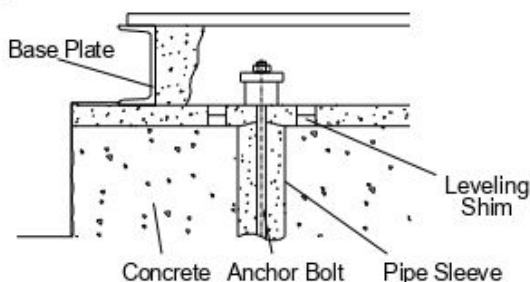

Fig. 2 Foundation, baseplate and fitting the shims
- The foundation should be heavy enough (at least 5 times the weight of the pump set) to reduce vibrations and rigid enough to avoid any twisting or misalignment. This is important in maintaining the alignment for a flexibly coupled unit. A concrete foundation on a solid base should be satisfactory. Foundation bolts of the proper size should be embedded in the concrete. A pipe sleeve larger in diameter than the bolt should be used to allow movement for final positioning of the bolts. Make sure the concrete foundation has set firm and solid before mounting the pumpset. The surface of the foundation should be truly horizontal and perfectly flat. (See fig. 2).
- Place the pumpset on the concrete which is prepared before and by adding or removing the leveling shims under the baseplate align the discharge flange horizontally by using a spirit level on it as shown on **Fig.2** make sure it is completely horizontal.